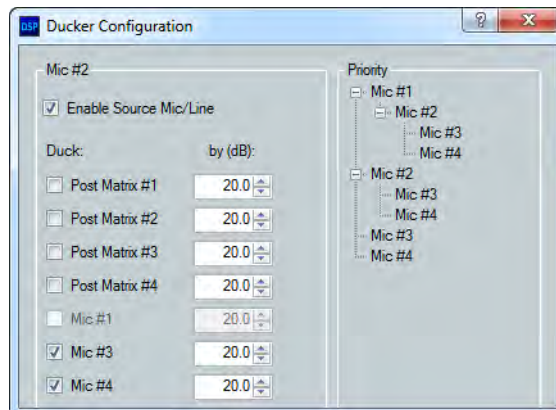

Figure 66. Set a Second Ducking Source
1. Insert a ducking processor on the additional ducking source. In this example, mic 2 is the second ducking source (see figure 66).